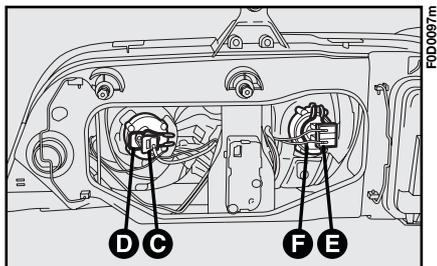

fig. 13
- 4) remove the connector **C** or **E**-fig. 13;